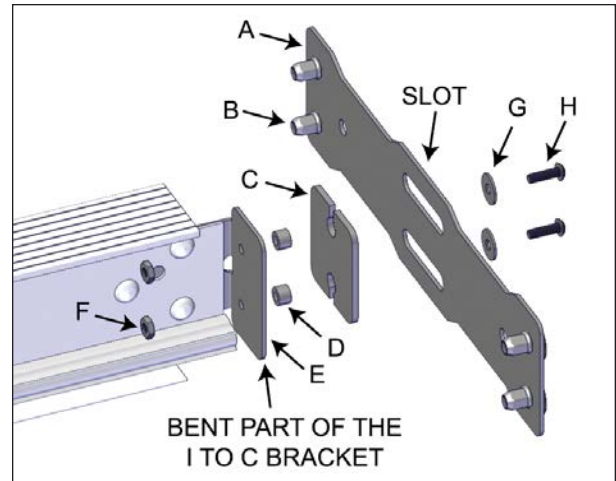

FIGURE 20: I TO C LONG CONNECTION PLATE INSTALLATION
1. Install an I to C long connection plate as shown in Figure 20. See the table following the figure for the fasteners to use.
Do not forget to orientate the nut inserts of the connection plate facing inwards, see Figure 20.